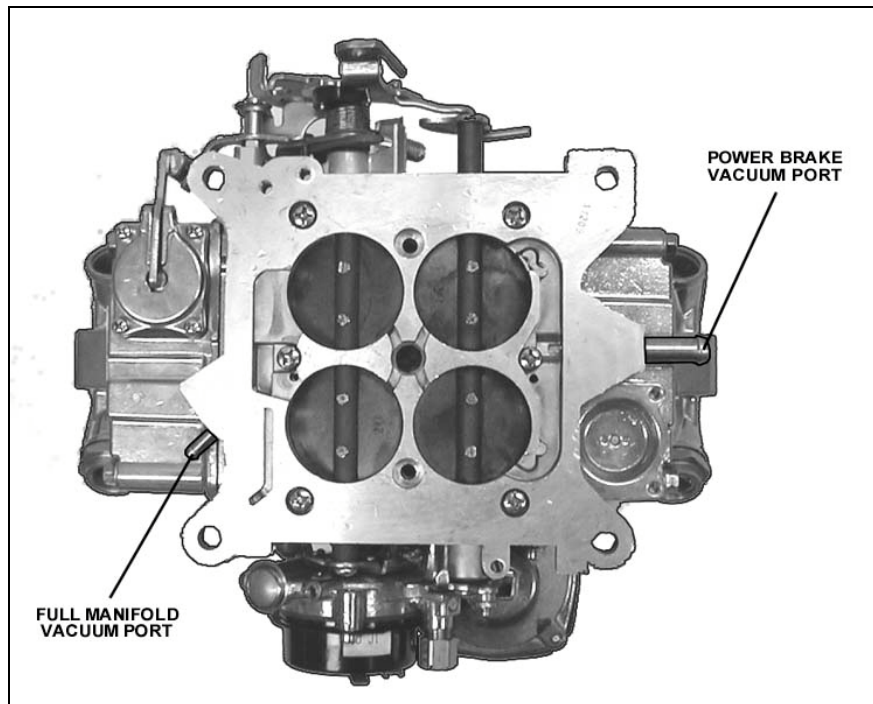

Figure 7
8. Connect the power brake hose to the fitting as shown in Figure 7.
- Attach the vacuum gauge to a manifold vacuum port on the throttle body (Figure 7).